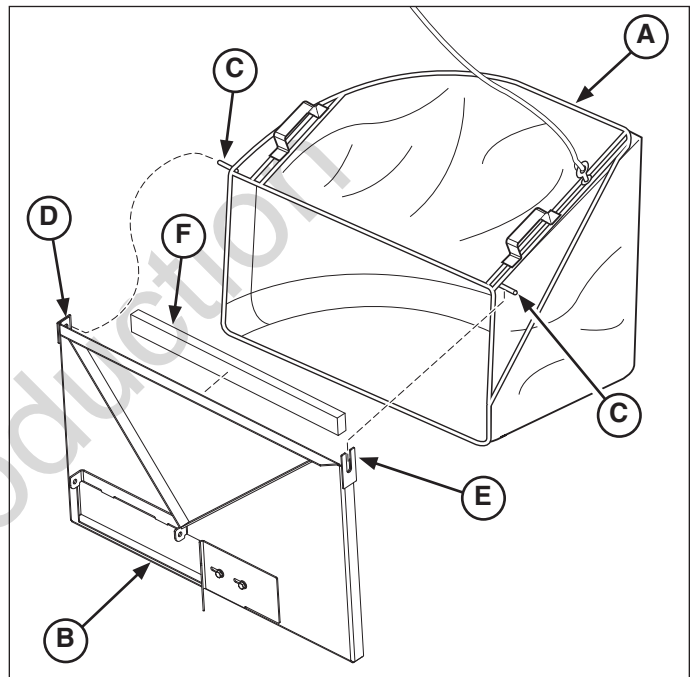

Figure 7. Install the Collector Bag
1. Attach the foam strip (**F, Figure 7**) to the bagger mount weldment. The foam strip should be flush with the top edge of the bagger mount weldment.
3. Place the rear collector pivoting pin into the bagger mount support slot (**E**) located on the back of the bagger mount as shown in Figure 7.
2. Untie the bagger dump rope (**Figure 7**) from the handle bar.